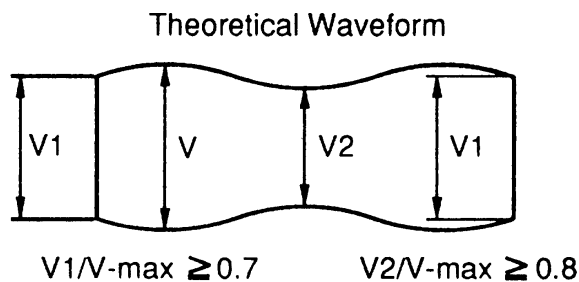

Fig. 14 - A/C Head Horizontal Position Adjustment/Confirmation
4. Play back the monoscope portion (6kHz mono audio) of the VHS alignment tape and confirm that the envelope output waveform (Fig. 14) appears on the scope.
Envelope Output Adjustment (Figs. 14 through 17)
4. Play back the monoscope portion (6kHz mono audio) of the VHS alignment tape and adjust the P2 and P3 posts so that the waveform becomes as flat as possible ($V1$ divided by V_{max} is 0.7 or greater) (Fig. 14).